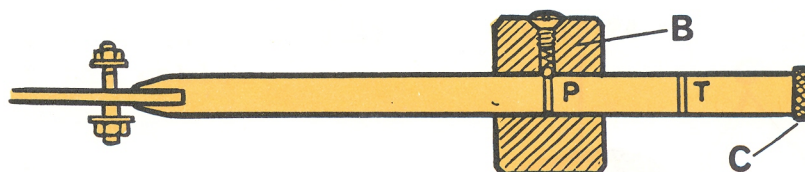

Fig. 5
- 4 Remove the stop "C" and slide the weight "B" on the arm to the position required (e.g. "P"). See fig. 5.